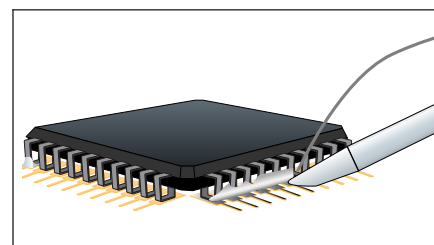

Figure 1 Melt Solder
4. Using broad surface tip, melt solder around the outside of the leads, creating an even, solid bridge across the entire row. (See Figure 1.)